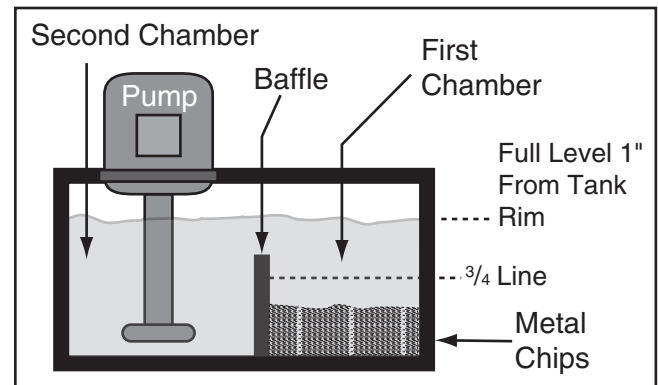

Figure 88. Diagram of cutting fluid tank.
4. Using a wooden stick, check the level of the metal chips in the first chamber (see **Figure 88**). If the chips are $\frac{3}{4}$ the height of the baffle, then remove the chips.